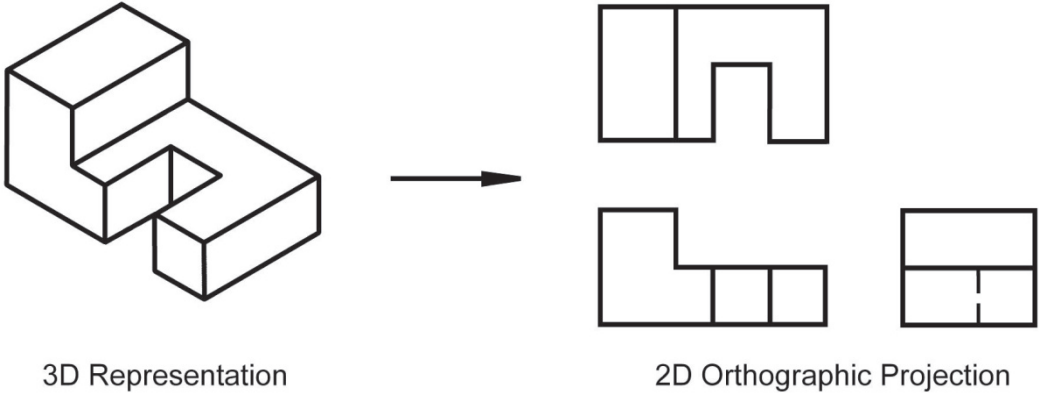

Figure 2.2-1: Orthographic projection.
**An *orthographic projection* enables us to represent a 3-D object in 2-D** (see Figure 2.2-1). An orthographic projection is a system of drawings that represent different sides of an object. These drawings are formed by projecting the edges of the object perpendicular to the desired planes of projection. Orthographic projections allow us to represent the shape of an object using 2 or more views. These views together with dimensions and notes are sufficient to manufacture the part.